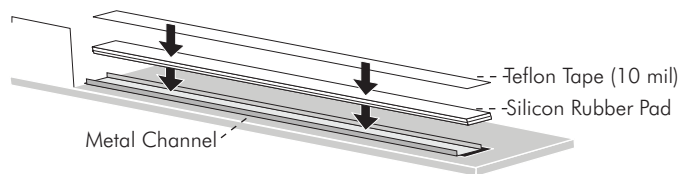

FIGURE 1
2. Place new silicone rubber pad inside metal channel. (See Figure 1.)
4. Apply Teflon tape (10 mil) to top of silicone rubber pad. (See Figure 1.)